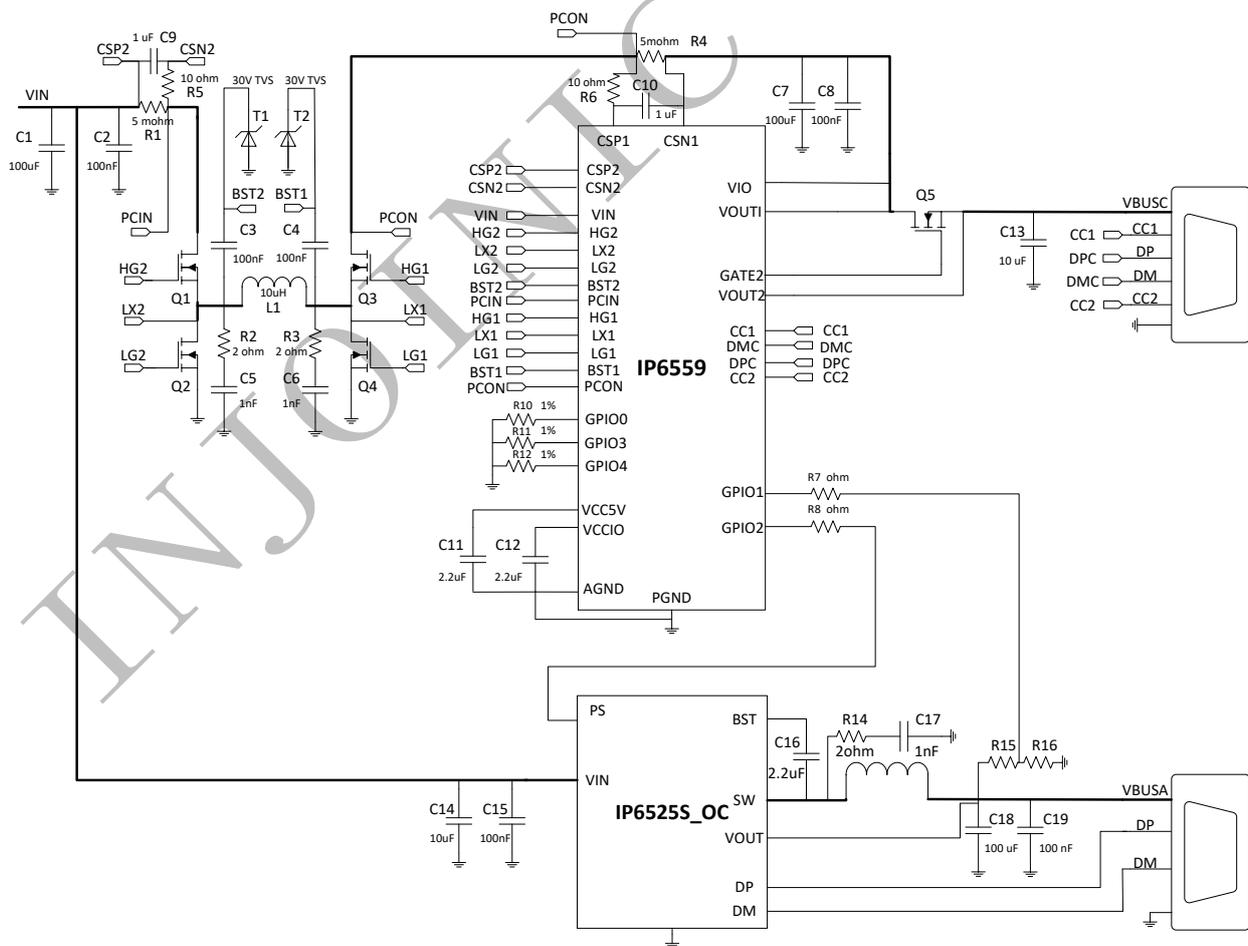

Figure 11. Typical application schematic diagram of IP6559 + IP6525S_OC dual-port with intelligent adjustment
3. In Figure 11, adjusting the ground resistance R10/R11/R12 can change the PDO of IP6559 port C in different states of the dual ports; If you don't want to reduce power in corresponding state, the R11 or R12 is not need;